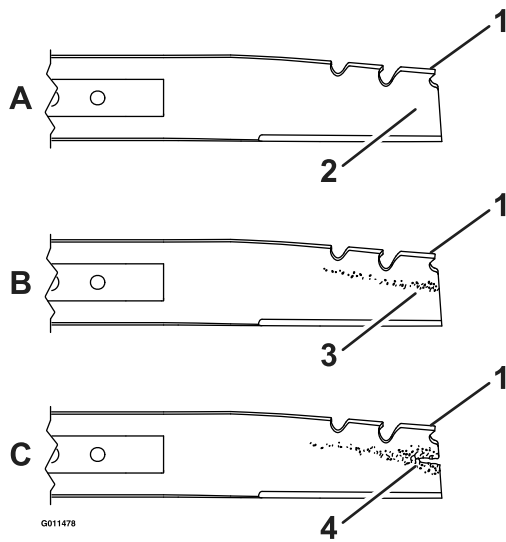

Figure 18
5. Inspect the blade for sharpness and wear, especially where the flat and the curved parts meet (see Figure 18). Because sand and abrasive material can wear away the metal that connects the flat and curved parts of the blade, check the blade before using the lawn mower. If you notice a slot or wear (Figure 18B and Figure 18C), replace the blade.